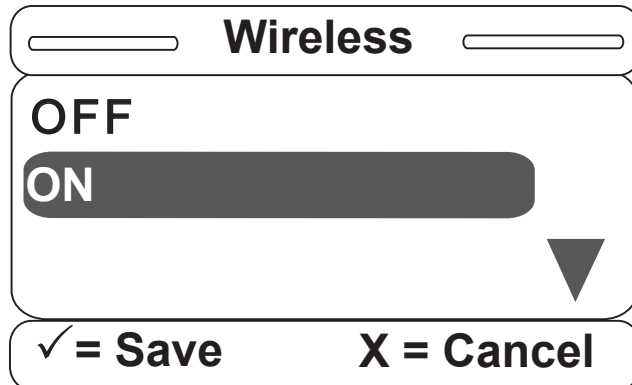

Figure S-19
19. Once the Wireless item is selected, the screen in Figure S-19 will be displayed. Set the Wireless option to ON then press “Enter” on the footboard panel to make your selection. If needed, press “Exit” to cancel the operation.